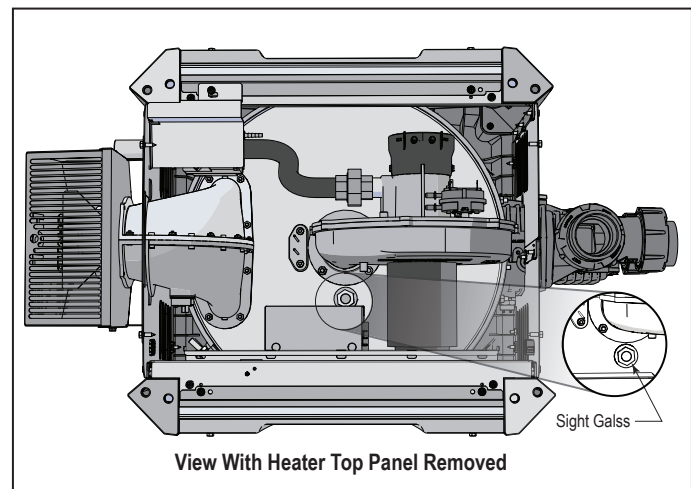

Figure 34. Remove Heater Top to View Sight Glass
11. Visually check the main burner flame. To obtain a good line of sight, remove the user interface from the top panel of the heater. See “Figure 34. Remove Heater Top to View Sight Glass” on page 32.